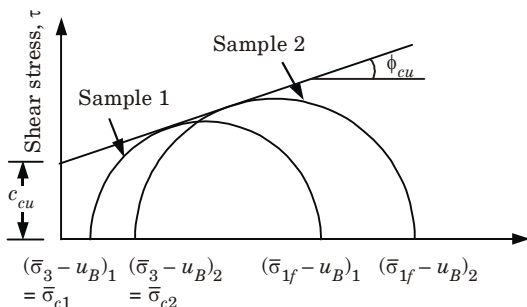

Fig. 4.20.2. Total stress failure envelope for c_u test.
4. The soil sample is sheared under this elevated cell pressure σ_3 and it fails at a vertical axial stress of σ_{1f} . Mohr's circles for determination of total stress parameters are drawn with $(\sigma_{1f} - u_B)$ and $\{(\sigma_3 - u_B) = \bar{\sigma}_c\}$ as major and minor total principal stresses at failure, respectively. The resulting failure envelope is shown in Fig. 4.20.2.